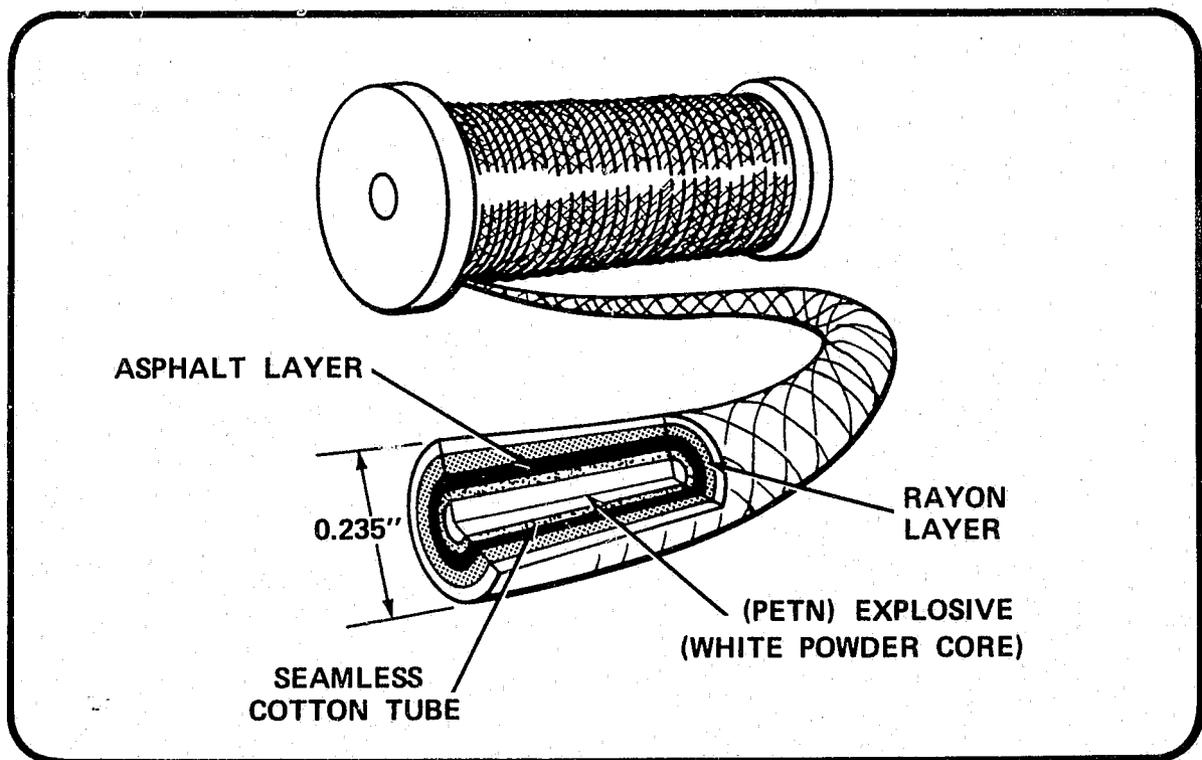

Figure 29
**Detonating Cord.** Detonating cord is a round flexible cord containing a center core of primary high explosive. As illustrated in figure 29, the explosive core of the detonating cord is protected by a sheath of various textiles, waterproofing materials, or plastics.